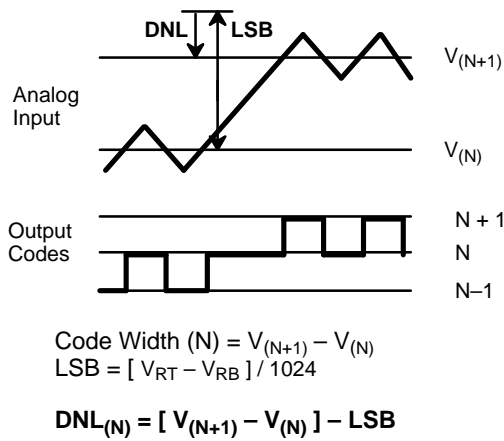
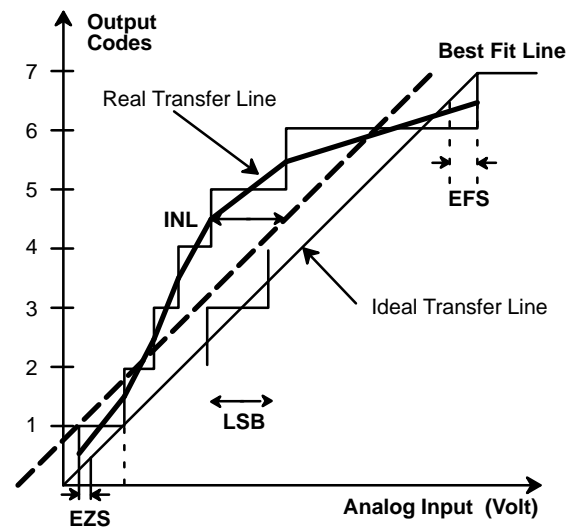

Figure 3. DNL Measurement
Figure 4. INL Error Calculation
- ¹ Tester measures code transitions by dithering the voltage of the analog input (V_{IN}). The difference between the measured and the ideal code width ($V_{REF}/1024$) is the DNL error (*Figure 3*). The INL error is the maximum distance (in LSBs) from the best fit line to any transition voltage (*Figure 4*). Accuracy is a function of the sampling rate (FS).